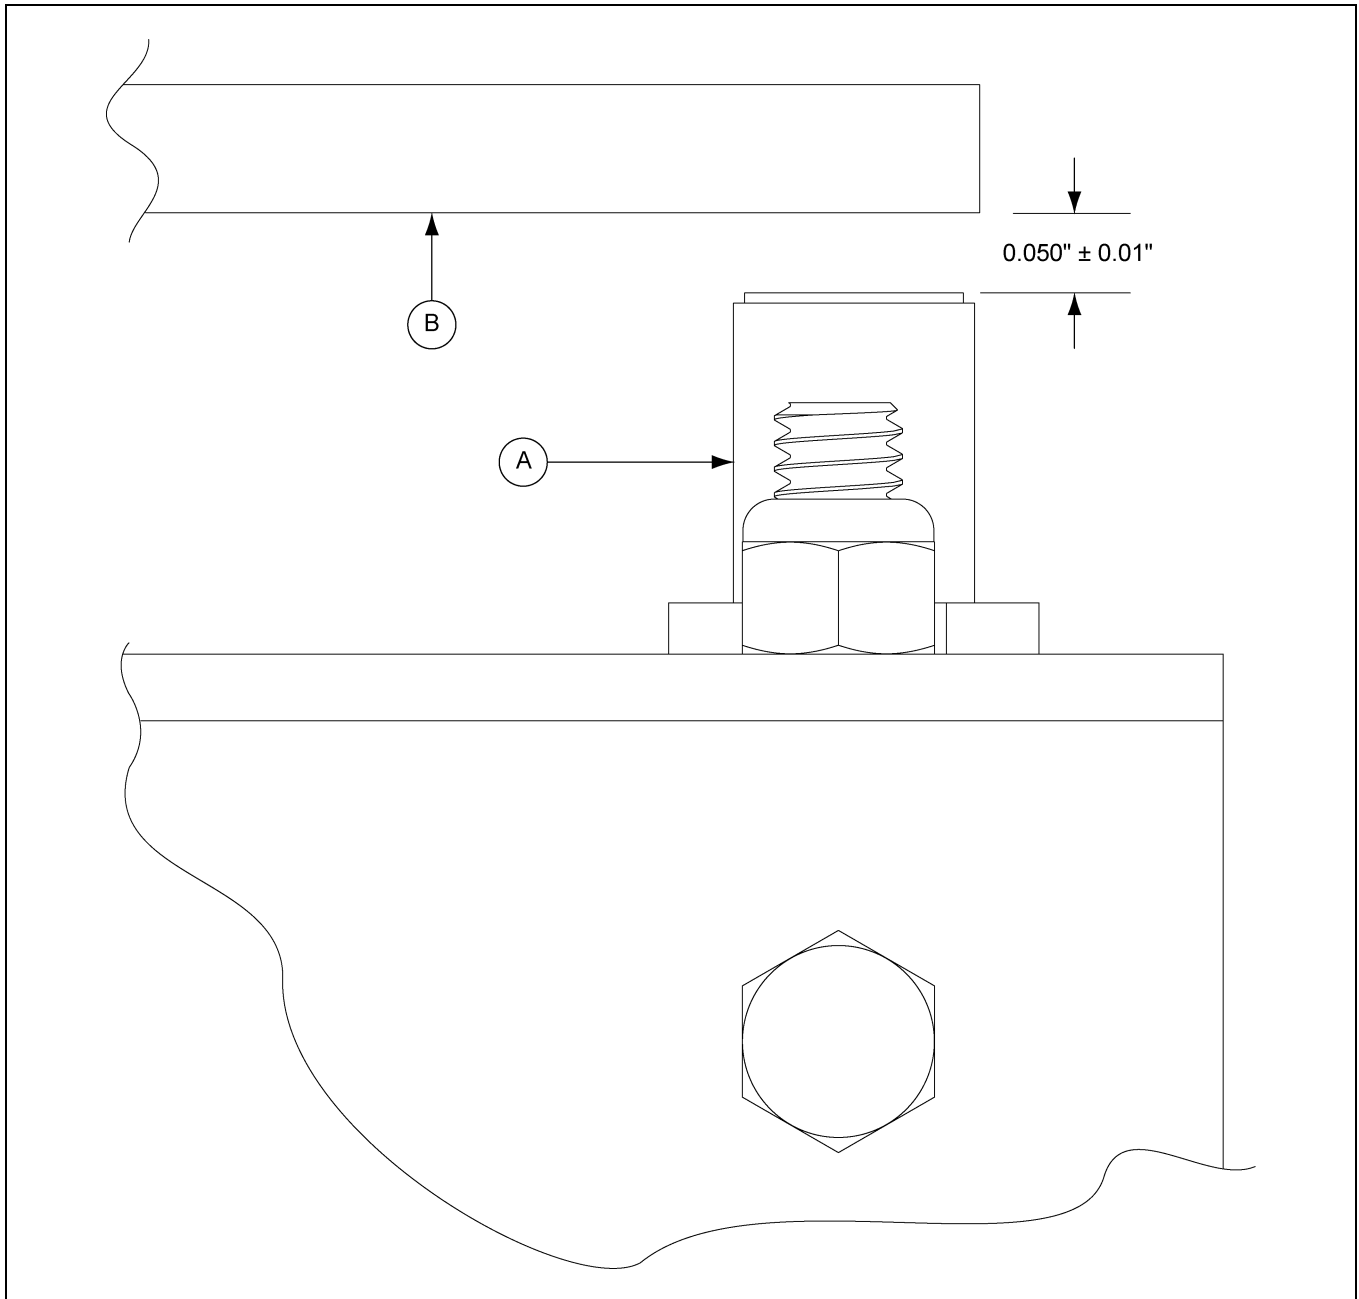

Figure 6F Proximity Sensor Adjustment
Set the clearance of the two (2) proximity sensors (A) to $0.050" \pm 0.01"$ from the face of each sensor to the flag (B) on the shaft (DEC0009). (See Figure 6F.) This adjustment may need to be made after motor is wired by using manual key switch to locate flag above each proximity sensor.